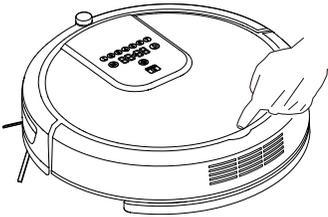

Fig.1
- 01. Pull up the dust cover (Fig. 1).